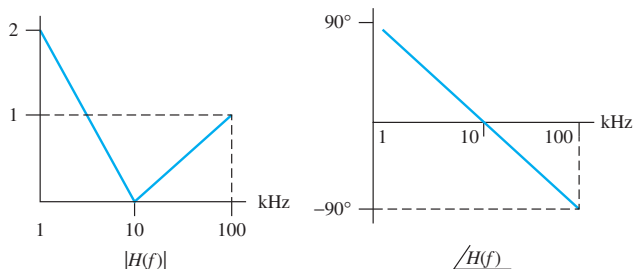

FIGURE P7.16 Frequency response for Problem 7.16.
7.16 (B)* Find the output of the filter represented by the frequency response in Figure P7.16, given this input: